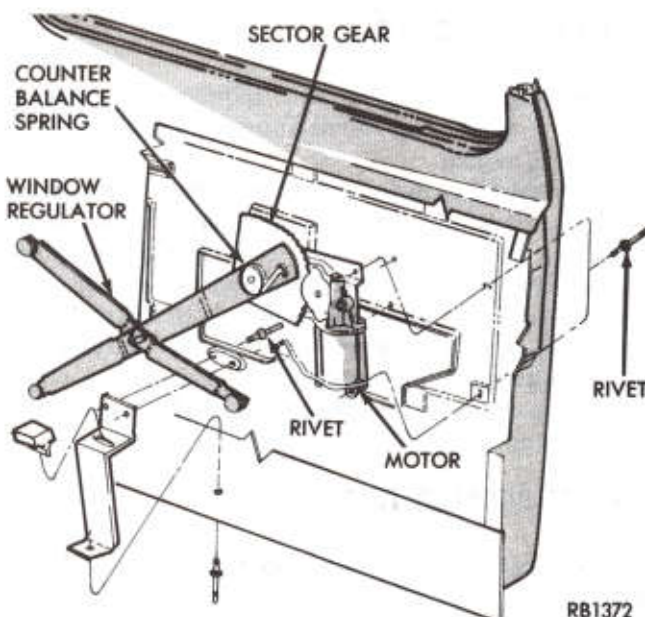

Fig. 2—Electric Window Regulator Mounting
- (1) Disconnect wiring connector from motor.
- (2) Remove three (3) attaching rivets that hold regulator to inner panel (Fig. 2). Remove screw that secures motor tie down bracket to inner panel if so equipped.
- (3) Maneuver regulator assembly by hand to disengage the drive arm slider from the glass lift channel. Remove from door.